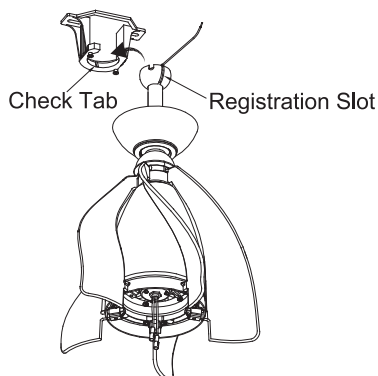

Fig. 12
**Step 3.** Now lift the motor body into position and place the hanger ball into the hanger bracket. Rotate until the "Check Tab" has dropped into the "Registration Slot " and seats firmly. ( Fig. 12) The entire motor body should not rotate if this is done correctly.